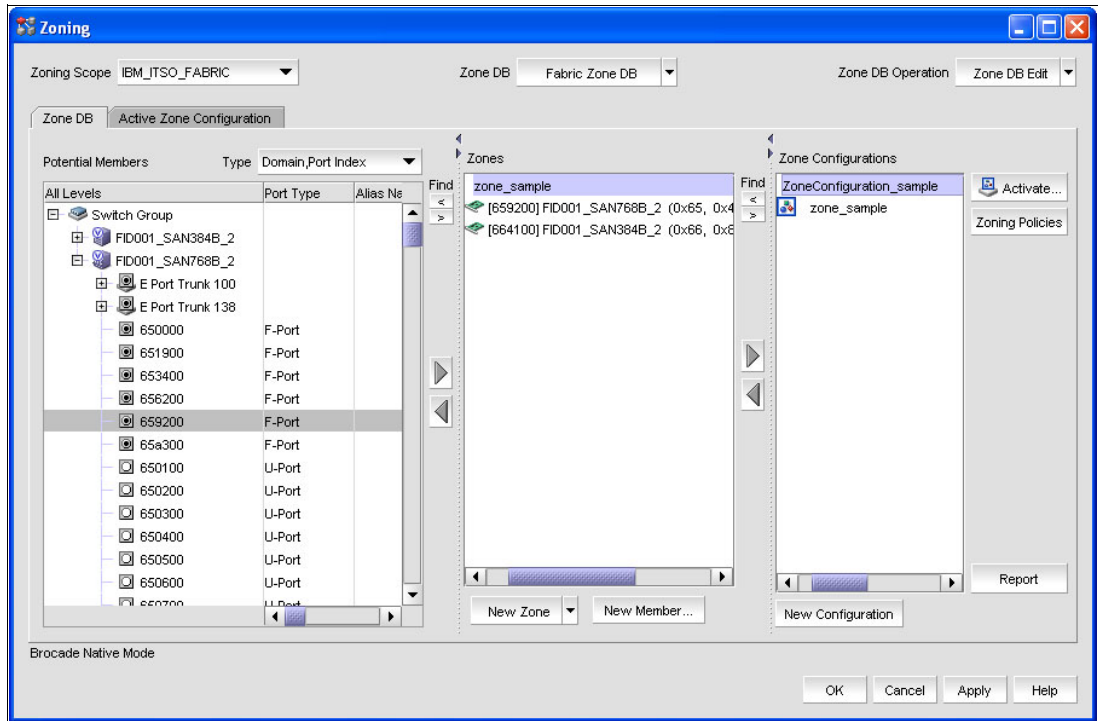

Figure 8-52 Creating a Zone Config
7. Select the zones in the middle of the window that you want to place in the newly created Zone Config, and then click the arrow pointing to the right. The result is shown in Figure 8-52 on page 294.